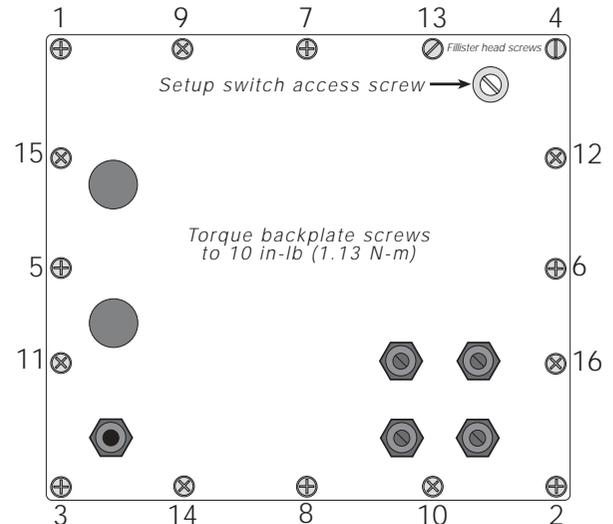

Figure 2-2. IQ plus 510/710 / Profibus Backplate
20. Position the backplate over the enclosure and reinstall the backplate screws. Use the torque pattern shown in Figure 2-2 to prevent distorting the backplate gasket. Torque screws to 15 in-lb (1.7 N-m).
Once wiring and DIP switch configuration (see Section 2.3 on page 6) are complete, position the backplate over the indicator enclosure and reinstall the backplate screws. Use the torque pattern shown in Figure 2-2 on page 3 to prevent distorting the backplate gasket. Torque screws to 10 in-lb (1.13 N-m).